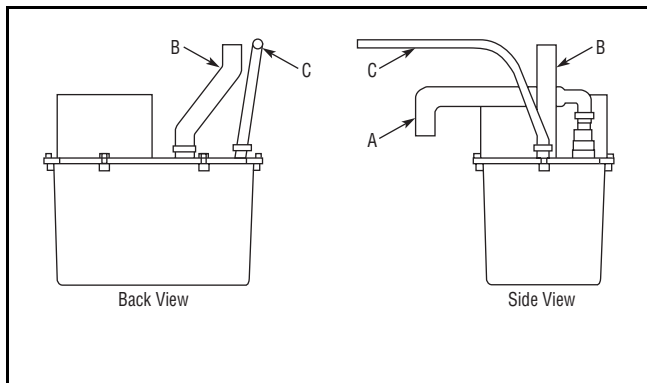

Figure 37
4. Check that the clamps and hose connections are tight at the following areas (see **Figure 37**):
- Discharge tube (A)
- Drain tube (B)
- Vent tube (C)